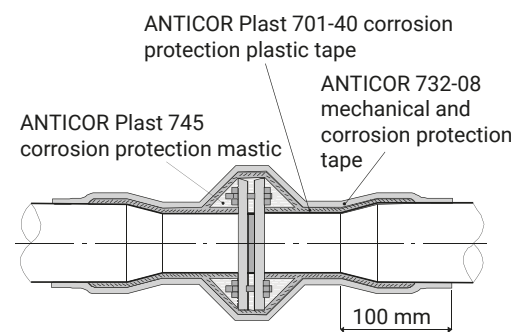

Fig. 2
2. Wrap the ANTICOR Plast 701-40 tape with a slight pretension, apply the plastic mass (the thick layer) of the tape for the protected surface twice with an overlap of 50%, going approx. 50 mm over the existing insulation (Fig. 2).